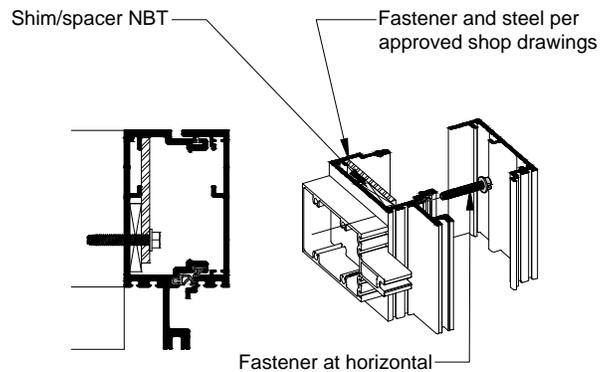

Fig. 40.3
- C. If steel reinforcing is required, install per approved shop drawings. Steel reinforcing can be attached to frame units in different ways. See Fig. 40.2 for examples at 5-1/4" and 7-3/4" back members. See Fig 40.3 for 3-3/4" back members.